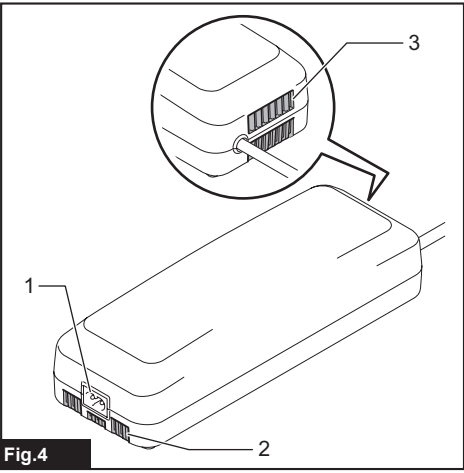

Fig.4
► **Fig.4:** 1. AC inlet 2. Intake vent 3. Exhaust vent